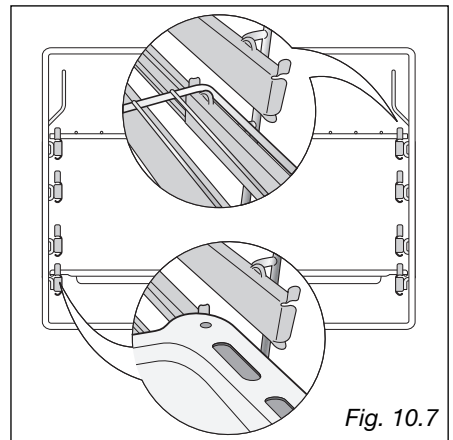

Fig. 10.7
- Position the shelf and tray on the sliding shelves (fig. 10.7).